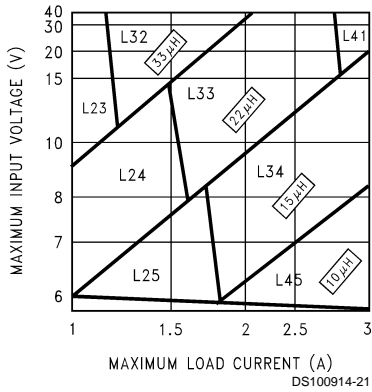
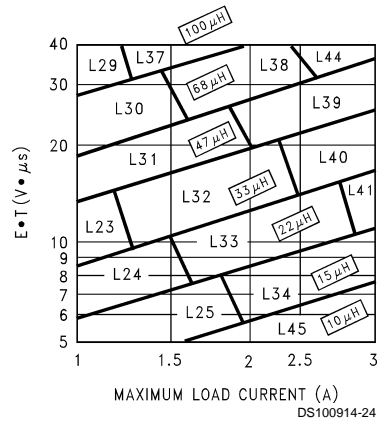

FIGURE 3. LM2676-3.3
FIGURE 6. LM2676-ADJ
**Step 3:** Determine the inductor required by using one of the four nomographs, *Figure 3* through *Figure 6*. Table 1 provides a specific manufacturer and part number for the inductor.
**Step 5:** Determine an input capacitor from Table 4 for fixed output voltage applications. Use Table 2 to find the specific capacitor type. For adjustable output circuits select a capacitor from Table 2 with a sufficient working voltage (WV) rating greater than  $V_{in\ max}$ , and an rms current rating greater than one-half the maximum load current (2 or more capacitors in parallel may be required).
**Step 3:** Use the nomograph for the 3.3V device, *Figure 3*. The intersection of the 16V horizontal line ( $V_{in\ max}$ ) and the 2.5A vertical line ( $I_{load\ max}$ ) indicates that L33, a 22 $\mu$ H inductor, is required.
**Step 3:** To use the nomograph for the adjustable device, Figure 6, requires a calculation of the inductor Volt•microsecond constant (E•T expressed in V•μS) from the following formula:
Using Figure 6, the intersection of 27V•μS horizontally and the 2A vertical line (Iload max) indicates that L38, a 68μH inductor, should be used.
**Important Note:** When using the adjustable device in low voltage applications (less than 3V output), if the nomograph, Figure 6, selects an inductance of 22μH or less, Table 6 does not provide an output capacitor solution. With these conditions the number of output capacitors required for stable operation becomes impractical. It is recommended to use either a 33μH or 47μH inductor and the output capacitors from Table 6.